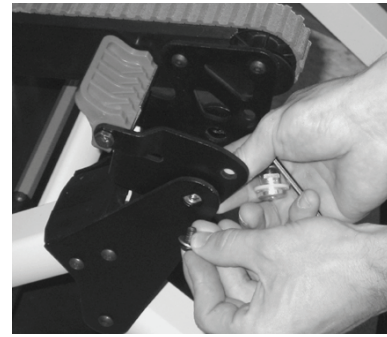

Figure 7 – Remove the track spacer pivots
4. Using a 5/32" hex key, remove the two button head cap screws from the track spacer pivots and remove the pivots (Figure 7).